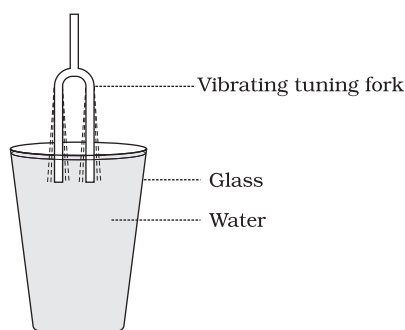

Fig. 11.3: Both the prongs of the vibrating tuning fork dipped in water
- Next dip the prongs of the vibrating tuning fork in water, as shown in Fig. 11.3.